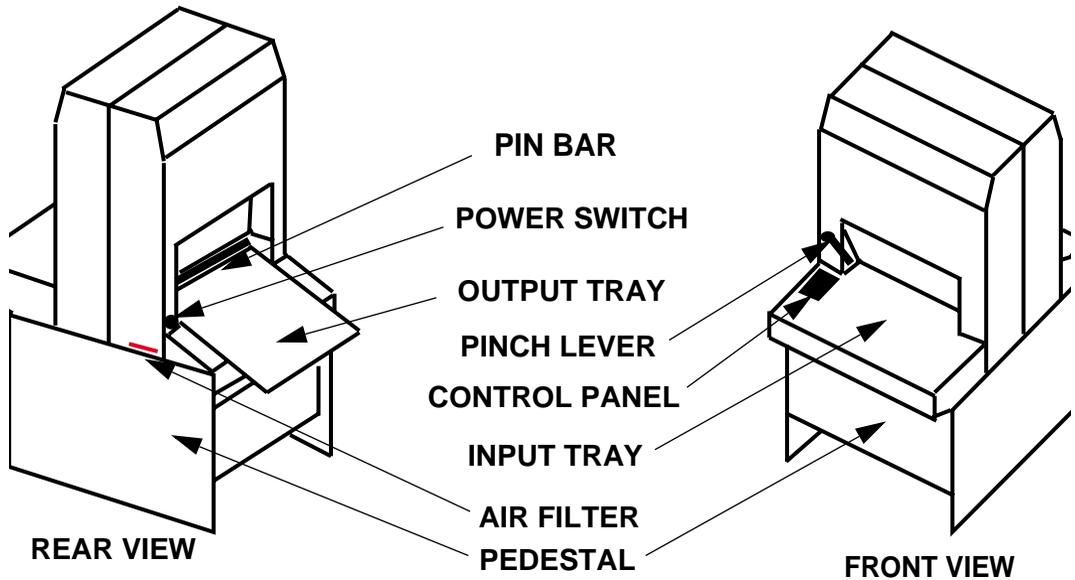

Figure 4-1 System Details
A filtered fan runs at all times to maintain an air flow inside the machine. The filter that covers this fan can become clogged with dust and other debris if it is not cleaned regularly. A clogged fan causes a loss of internal pressure and the increased probability of a system malfunction. See Figure 4-1. Clean this filter whenever it shows external signs of contamination with dust or other debris.
- Step 2. From inside the pedestal, reach up and under the machine where the on/off switch is located. See Figure 4-1.